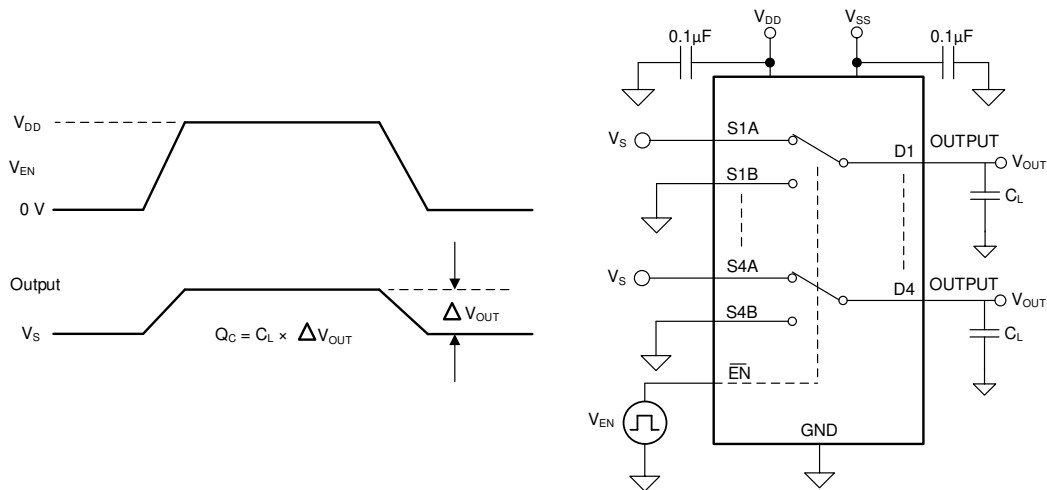

图 7-7. Charge-Injection Measurement Setup
The TMUX1133 has a transmission-gate topology. Any mismatch in capacitance between the NMOS and PMOS transistors results in a charge injected into the drain or source during the falling or rising edge of the gate signal. The amount of charge injected into the source or drain of the device is known as charge injection, and is denoted by the symbol Q_C . 图 7-7 shows the setup used to measure charge injection from source (Sx) to drain (D).